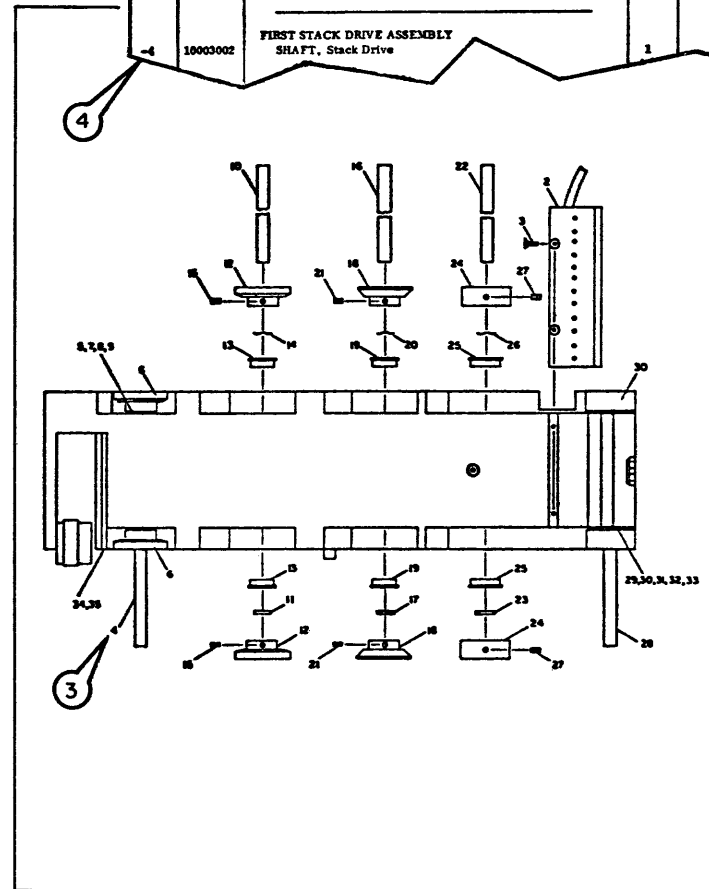

FIGURE 12-1 HOW TO USE PARTS BREAKDOWN WHEN PART NUMBER IS NOT KNOWN
a. When the Part Number is not Known (Figure 12-1):